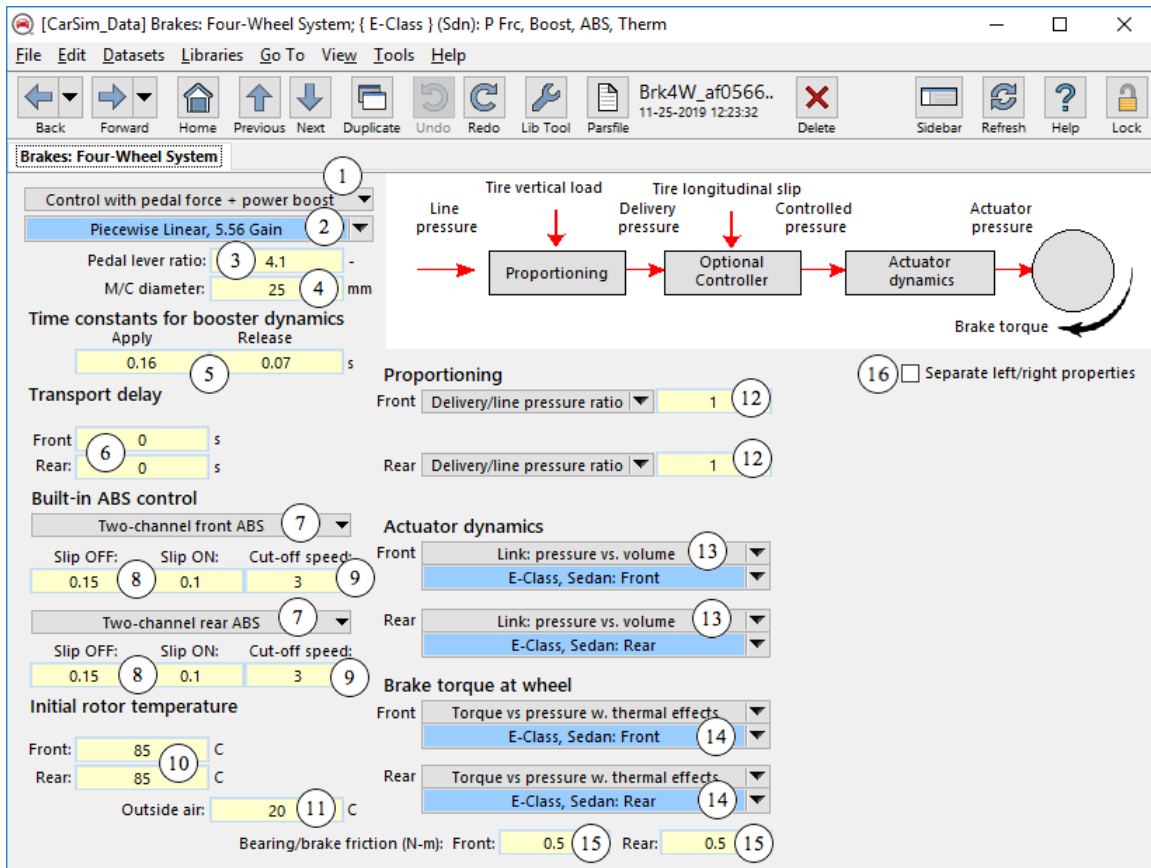
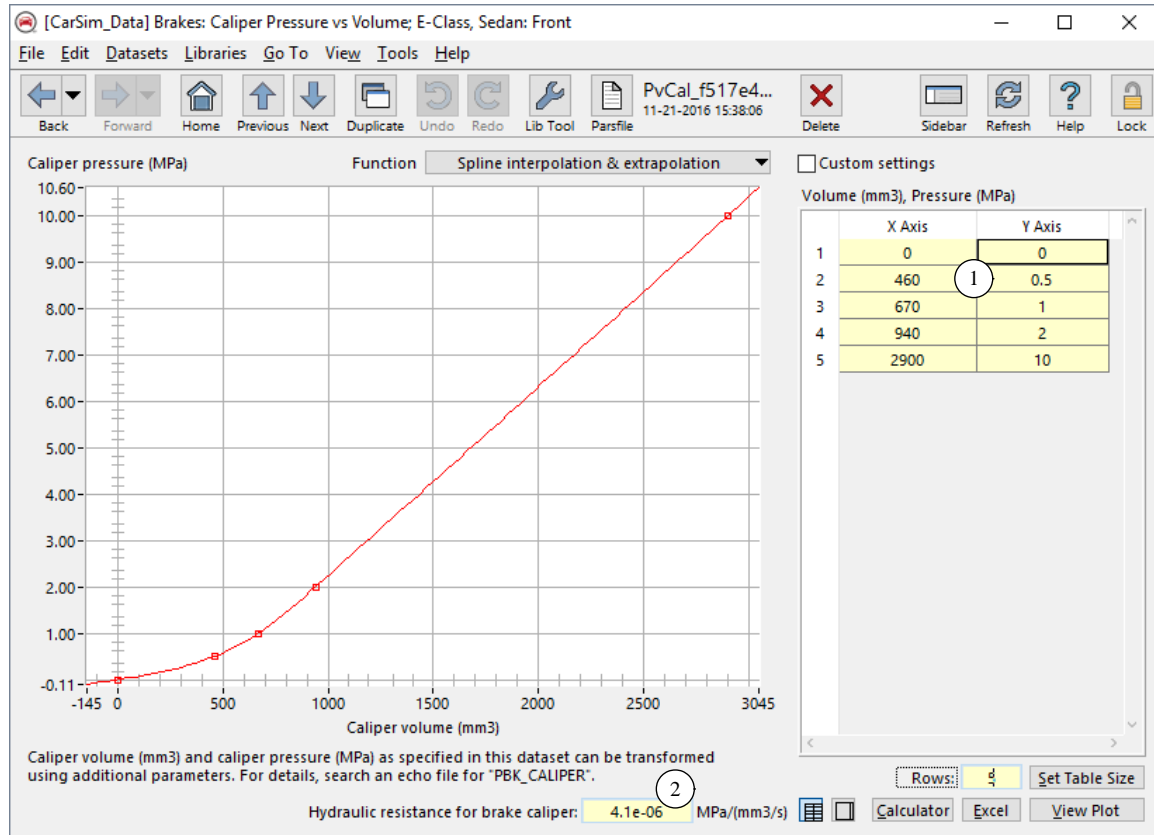

Figure 3. The Brakes: Four-Wheel System screen.
Figure 8. The Brakes: Caliper Pressure vs Volume screen.
The CarSim library **Brakes: Four-Wheel System** (Figure 3) is used for the main vehicle, which always has four wheels. It is also used for the brakes in four-wheeled trailers. The screen for the TruckSim library **Brakes: Two-Wheel System** is nearly identical to the four-wheeled screen, but as expected from the name, it only has settings for two wheels.
If the second or third option is chosen, then two fields are shown for parameters that link pedal force to master cylinder pressure (③ and ④, Figure 3).
CarSim and TruckSim include a simple built-in ABS controller that is automatically installed by using the drop-down control ⑦ (Figure 3) to enable the ABS for an axle. Enabling the system causes the command INSTALL\_ABS\_CONTROLLER to be written into the Parsfile for the dataset, which then causes the built-in controller to be installed. Parameters for the controller appear in a different section of the Echo file (Figure 5).
The choice is made from the brake system screen with the drop-down control that specifies actuator dynamics (⑬, Figure 3, page 6). When the option is chosen for **Link: pressure vs. volume**, a link is made to the library **Brakes: Caliper Pressure vs Volume** (Figure 8).
In this case, the flow  $Q$  into each actuator is calculated from the pressure difference divided by a hydraulic resistance  $R$  (defined with the parameter `BK_HYD_RES` ②, Figure 8).